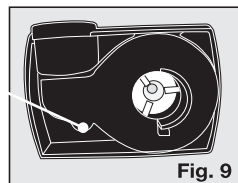

Fig. 9
3. Next, you will want to remove the Intake Plate by placing your fingernail underneath the small lip located on the narrow side of the tear drop shaped Intake Plate Pull-Tab and pull it out (**Fig. 9**).